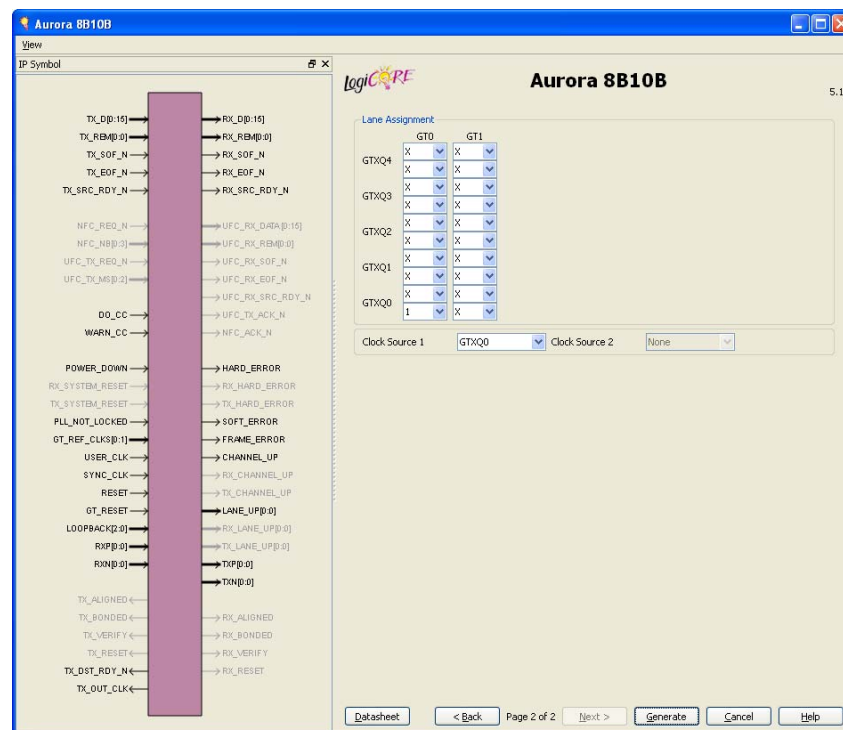

Figure 2-4: Second GUI Page for Virtex-6 FPGA GTX Transceivers
- Figure 2-4, page 23 for Virtex-6 FPGA GTX transceivers